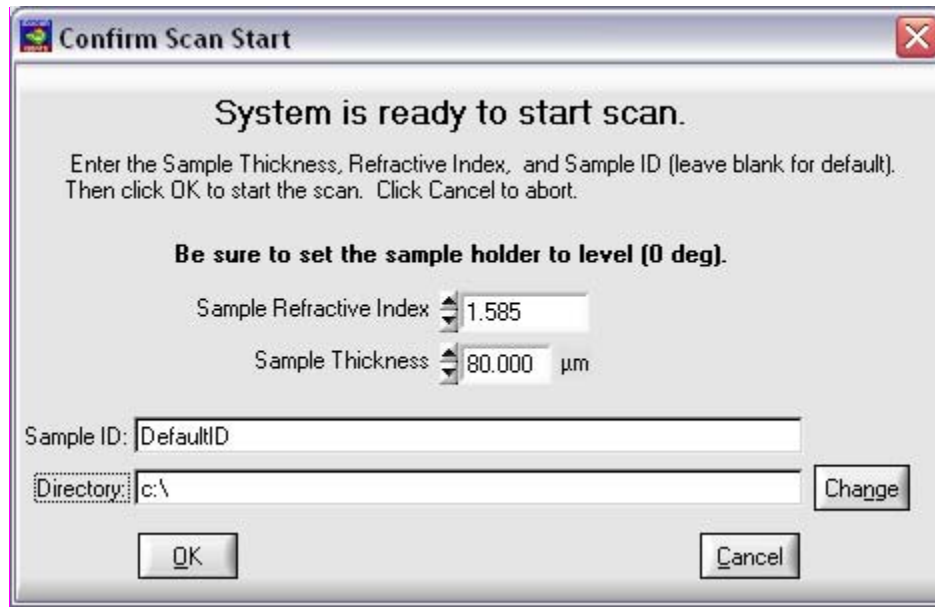

Figure 3.6 Confirm Scan Start Dialog Box
- Click on the **Start Scan** button. The dialog box shown in Figure 3.6 appears, prompting you for a sample ID. Enter a new sample ID or leave the field blank to accept the default sample ID, “DefaultID”.